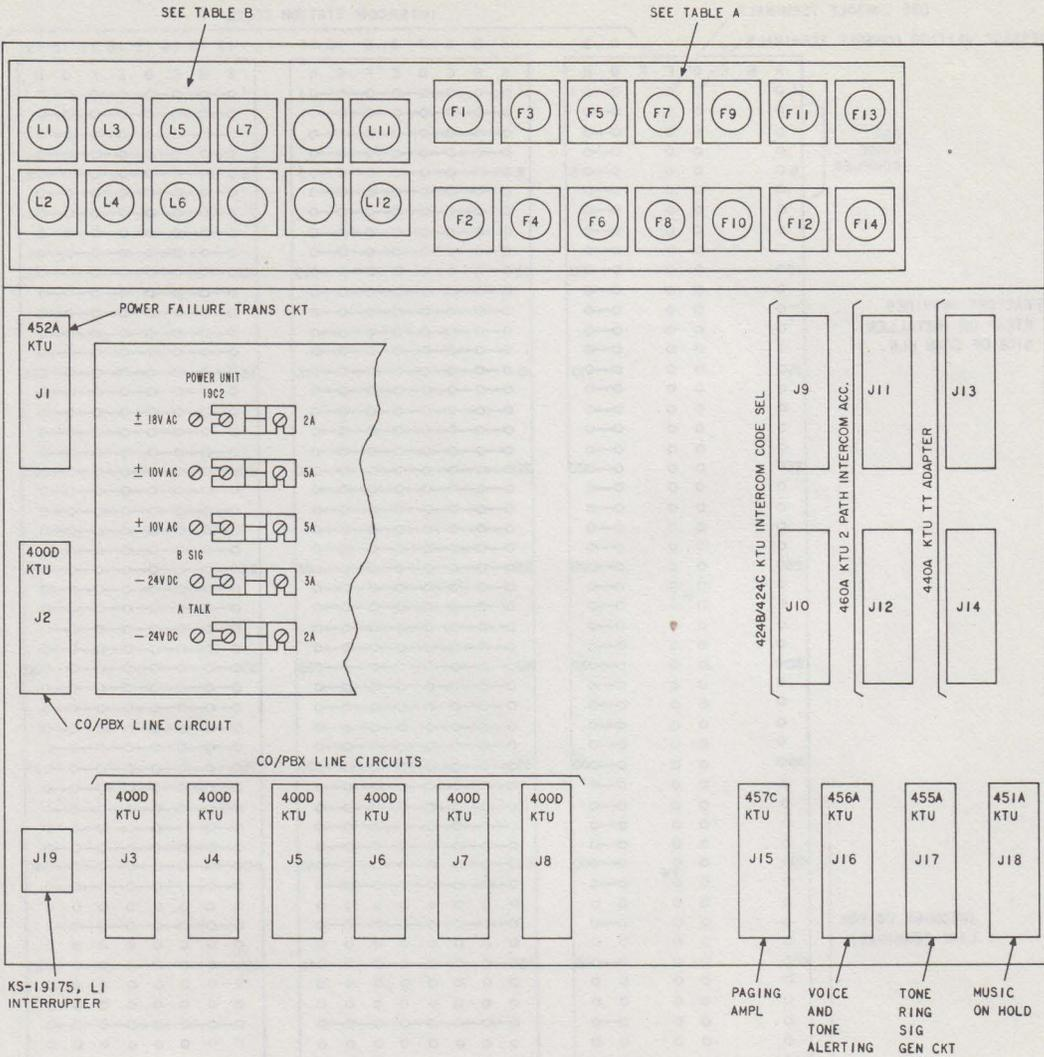

Fig. 6—570A KSU, Connector, Fuse and Lamp Arrangement
2.06 The fuse panel in the 570A KSU utilizes 70-type indicator fuses to give a visual indication of fuse status. The 19C2 power unit is equipped with 24-type fuses which do not provide a fuse status indication. See Fig. 6 and Table A.
2.07 The lamp panel in the 570A KSU provides a status lamp for each CO/PBX line and intercom path. The lamps give the same indication of line status (flash, steady, wink) as the line lamps in the telephone sets. See Fig. 6 and Table B.